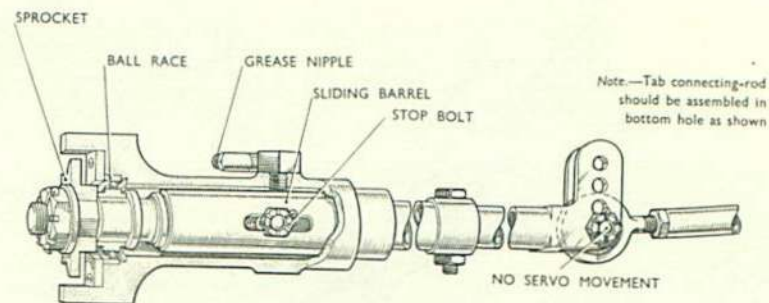

Fig. 7 Elevator tab jack
(2) Set the tab jack (Fig. 7) on the rear spar of the tail plane in the neutral position (i. e., by taking the mean extension of the ram).
(3) Place the chain on the sprocket with an equal number of pitches on each side. Connect and tension the cables between the chain and the Teleflex controls.
(4) Set the elevator neutral, and initially adjust the tab connecting rod to set the tab at neutral with the tab position indicator at zero.